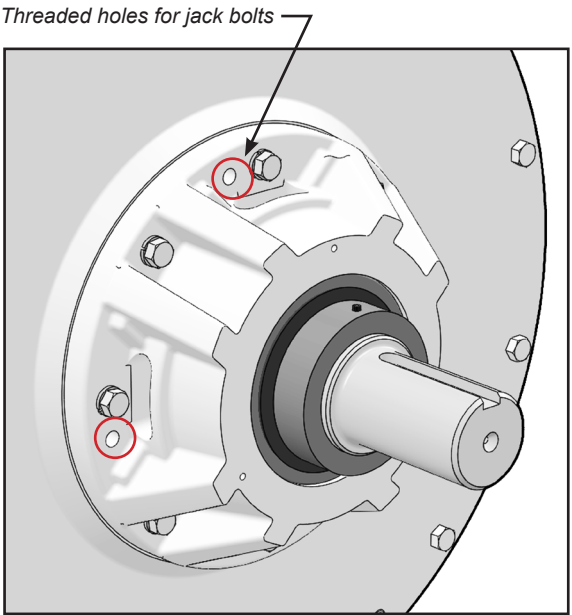

FIGURE 10
- 9. If bearing cartridge will not release from shaft, thread two or four 3/8"-16 x 4 1/2" jack bolts into opposing threaded cartridge holes to contact endplate (Figure 10 & 11).